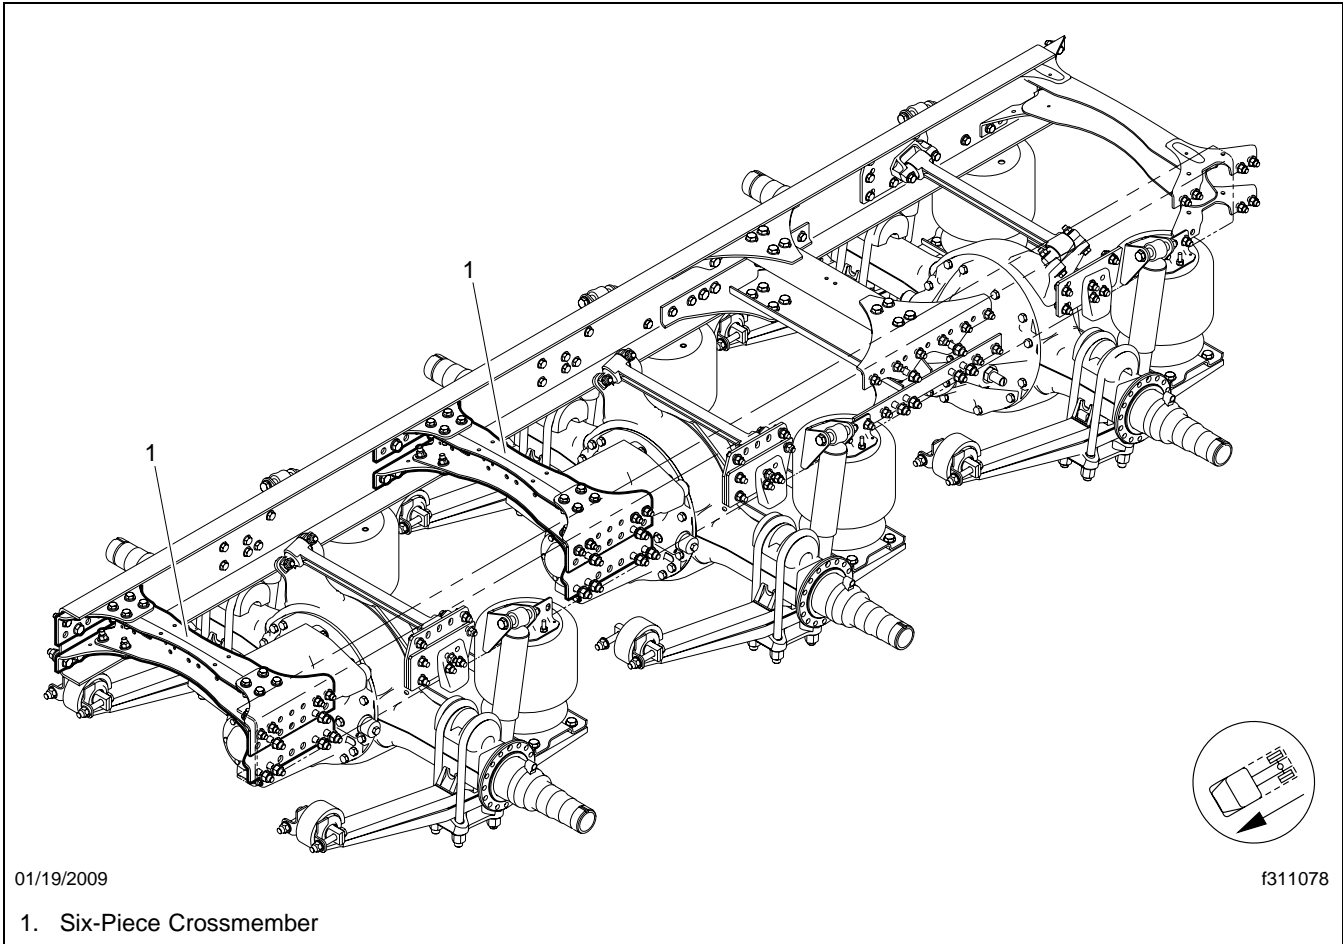

Fig. 3, Tridem Axle Installation
- AirLiner Tridem Axle Suspension Six-Piece Mid and Forward Crossmember (see **Fig. 3**).